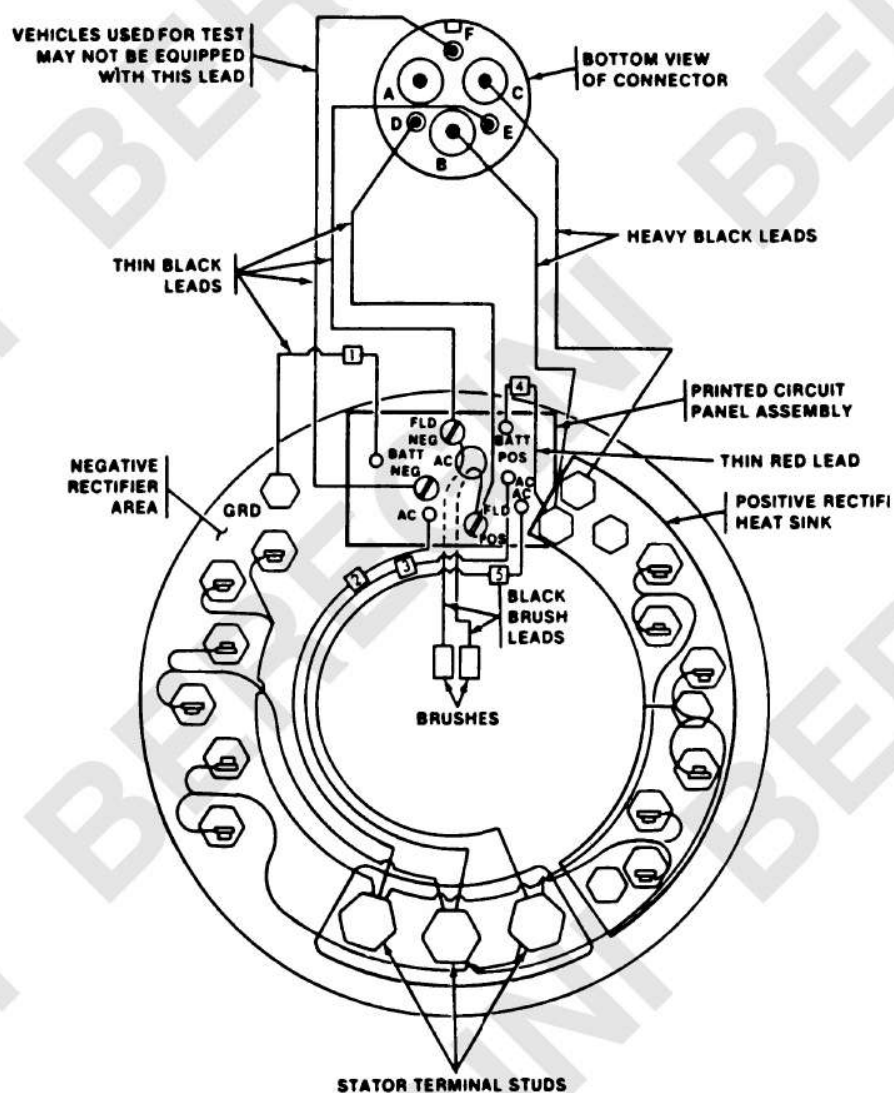

Figure 3-12. Drive End Housing Assembly Interconnection Diagram.
(10) Install brush holder, brushes, and printed circuit panel assembly in drive end housing assembly (fig. 3-3). Use figure 3-12 as a guide when making lead connections.
(11) Install mounting plate and connector assembly to drive end housing assembly (**fig. 3-2**). Use **figure 3-2** and **figure 3-12** to make lead connections.